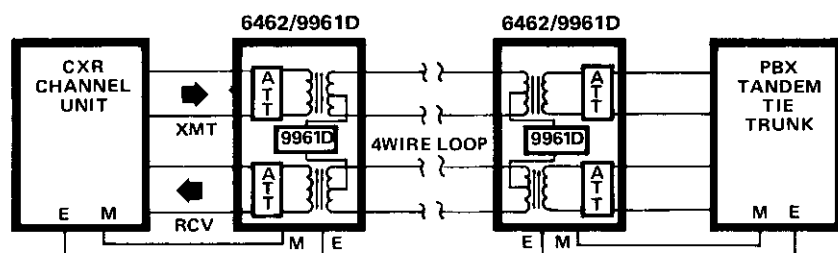

figure 3. Typical application of 6462 equipped with 9961D
2.09 The 9961D Signaling Converter DX subassembly, when mounted on the 6462 module, provides extended E-and-M-lead (DX) signaling, i.e., conversion from E-and-M-lead signaling to DX signaling, over a 4wire facility (figure 3). Maximum range of the 9961D is 5000 ohms loop resistance. The 9961D may be switch-optional for either DX1 or DX2 operation. In the DX1 mode, M-lead signals are input to the module and E-lead signals are output. In the DX2 mode, M-lead signals are input, and E-lead signals are output.